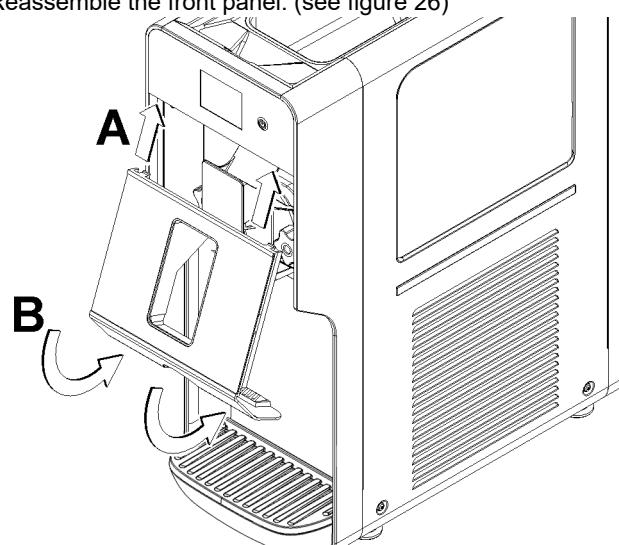

figure 26
- Reassemble the front panel. (see figure 26)